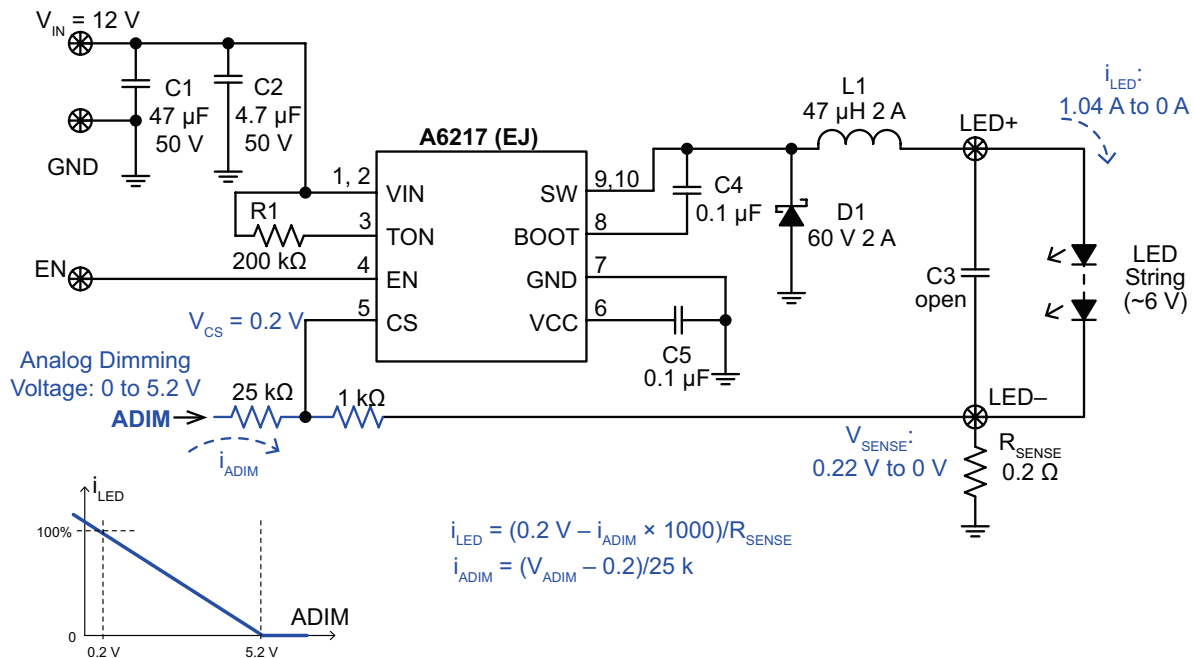

Figure 17: Analog Dimming of LED Current with an External DC Voltage
- Figure 17 shows analog dimming of LED current by an external DC voltage